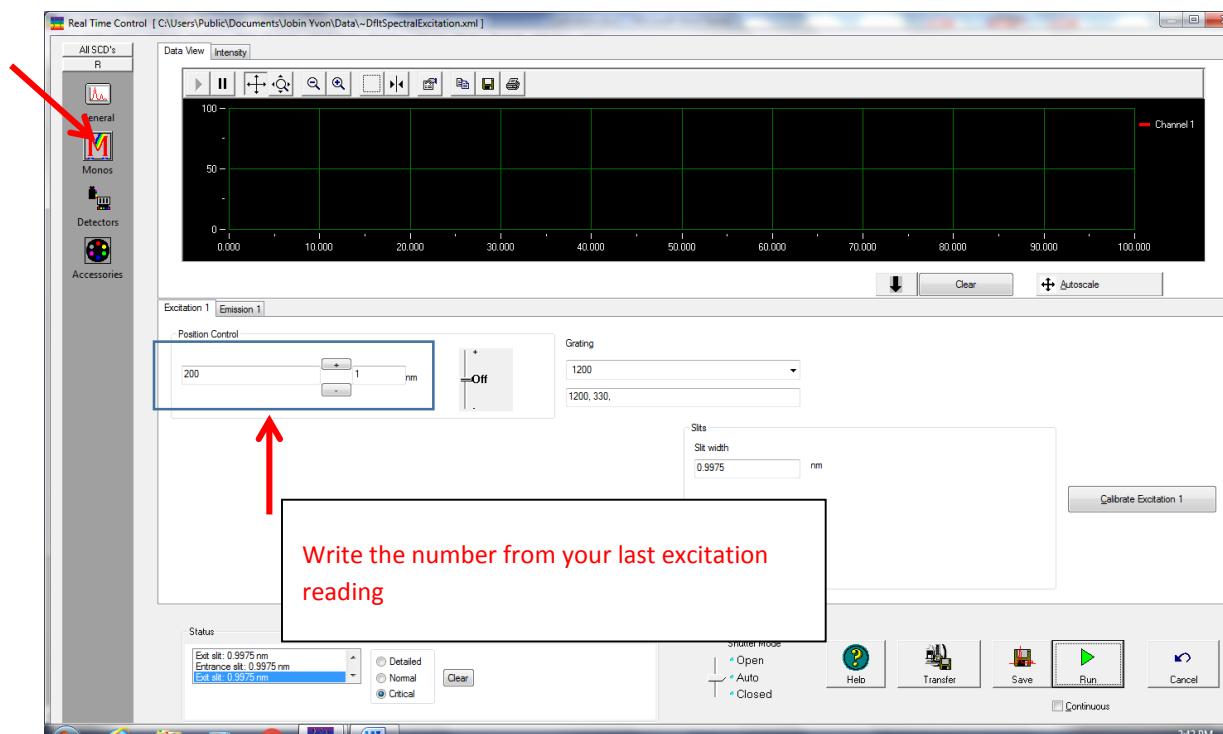

Figure 10 Calibrate excitation
- Click on the Monos. You will see this window (Figure 10). Choose Excitation tab. Tap the number you read from your last excitation reading.